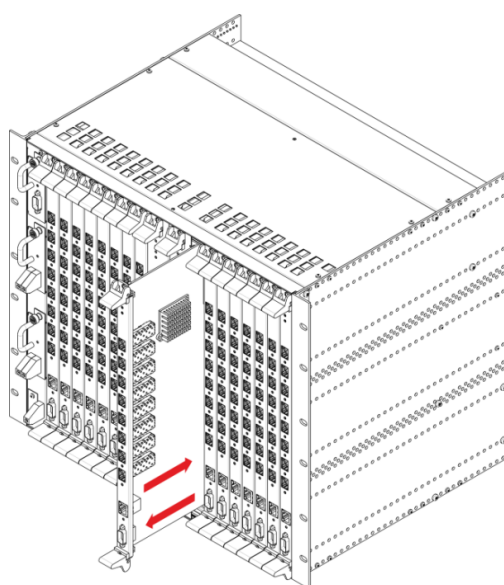

Figure 47 – Installing board into MA4000-PX
Step 5. Remove the screws located on the module ejectors. Push the bottom ejector down and pull the top ejector up. Pull out the module and remove it from the chassis, Figure 47.
Step 6. Install a new PP4X module in reversed order, Figure 47.
After all modules has been installed into the rack, secure the connection with screws, see Figure 47.
Step 3. Remove the screws located on the module ejectors. Push the bottom ejector down and pull the top ejector up. Pull out the module and remove it from the chassis, Figure 47.
Step 4. Install a new PLC8 module in reversed order, Figure 47.